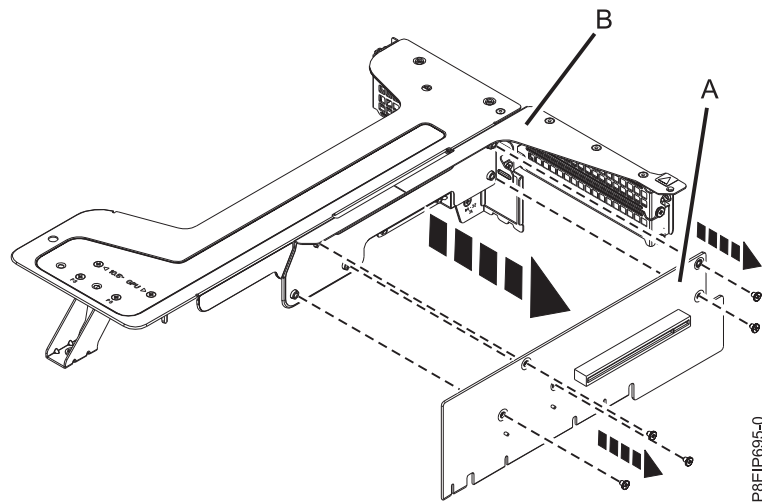

Figure 42. Removing position 1 riser card
- j. If the riser card in position 1 needs replacing, remove it from the riser support. Remove the five screws that secure the riser card to the riser support as shown in Figure 42.